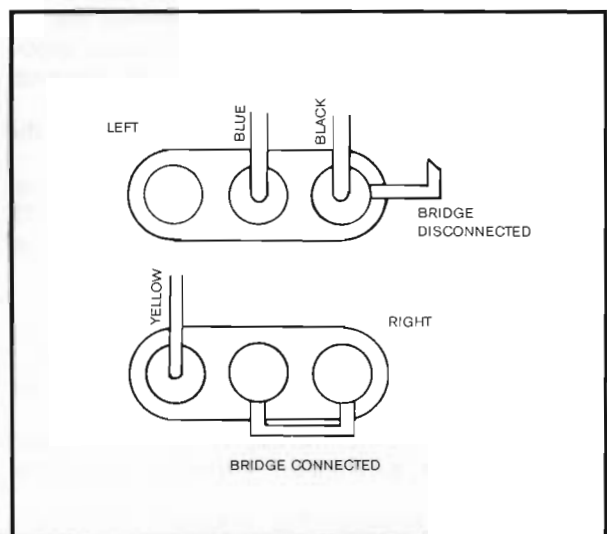

Fig. 2 Connections
3. Connect three cables to the terminal strips of the oscilloscope. From left to right: blue, black, yellow. The bridge of the left-hand terminal strip should be open, that of the right-hand terminal strip closed. (See Figure 2.)